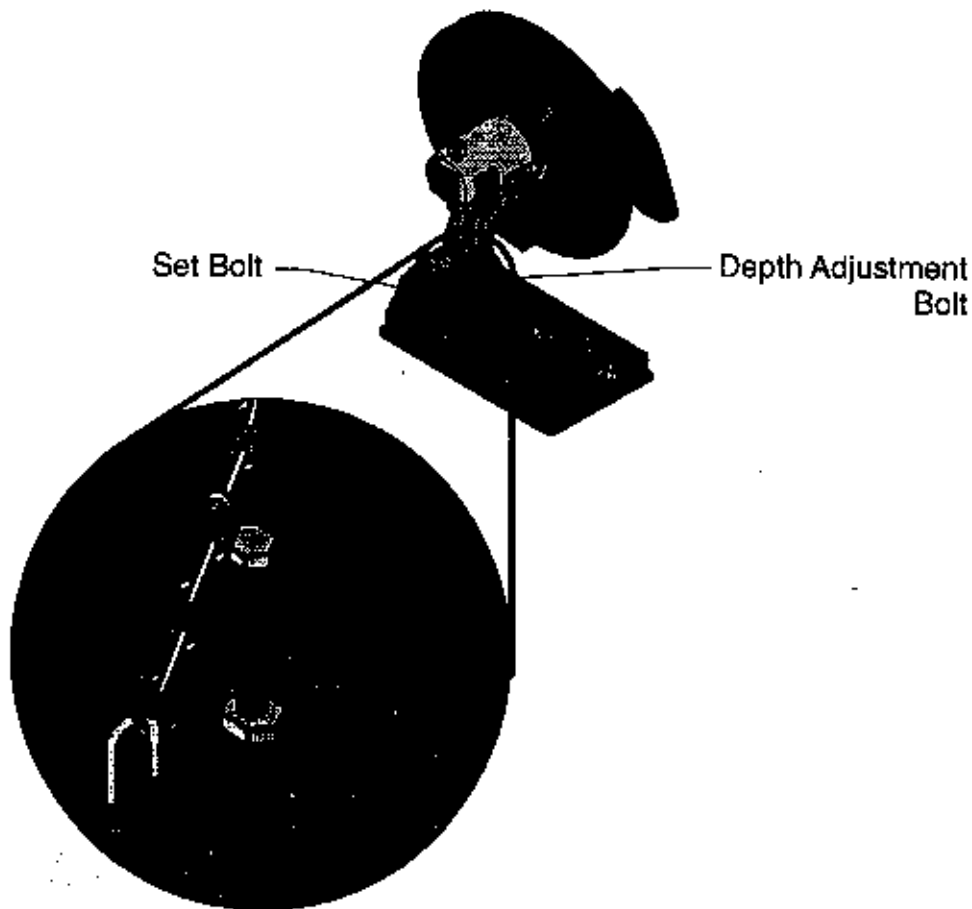

Figure 4 -- Adjusting Depth of Cut
- Step 1: Loosen the Set Nut on the Depth Adjustment Bolt as shown in Figure 4.